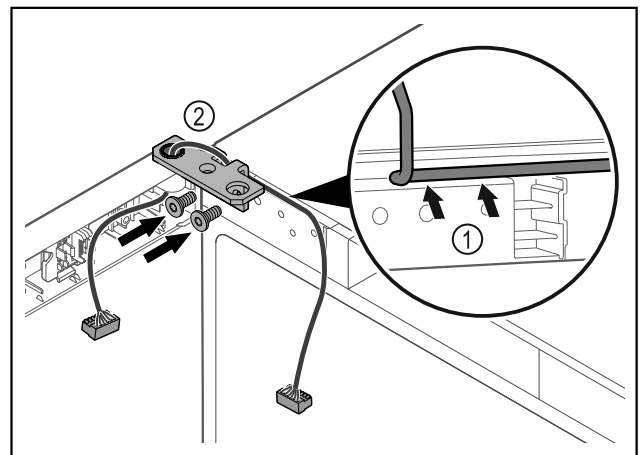

Fig. 47
- Feed the cable through the recess in the hinge and lay it carefully Fig. 47 (1).
- Screw on the hinge Fig. 47 (2).